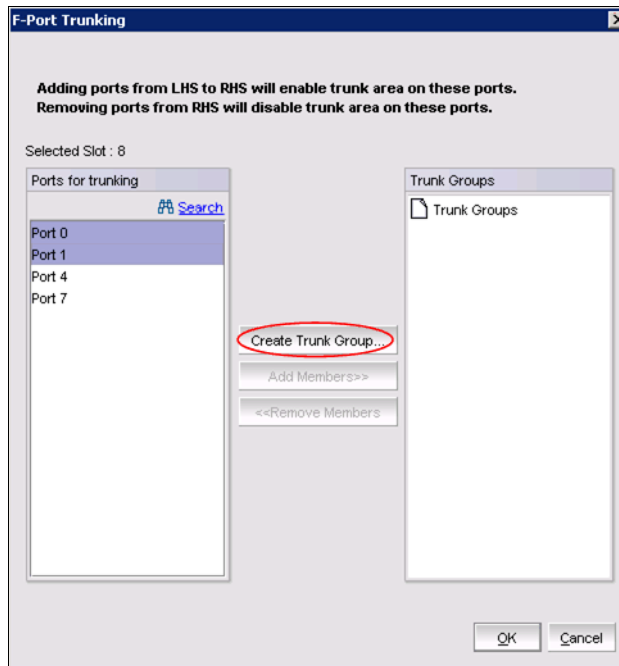

Figure 8-59 F_Port Trunk group creation
When we create an F_Port trunk, a logical unit called a Trunk Index (TI) is formed that represents the physical ports in the trunk. From Advanced mode, when we select **F_Port trunking**, it will prompt us to select the ports as shown in Figure 8-59.